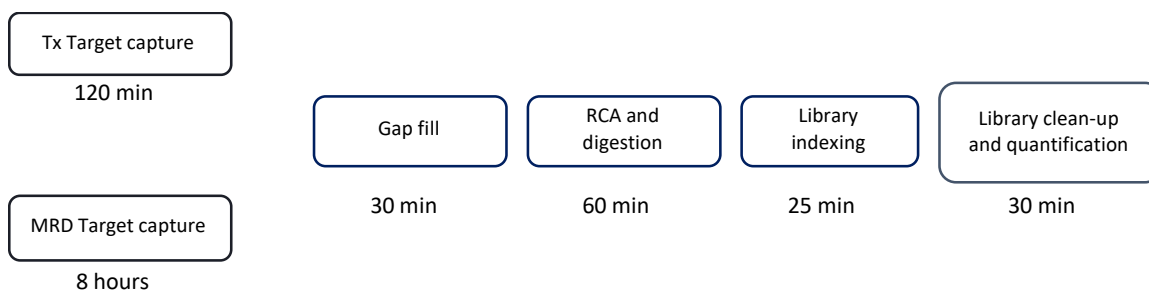

Figure 3 Duration breakdown of Geno1® Tx and MRD laboratory workflows.
11. What is the turnover and hands-on time of the Geno1® NGS technology platform?	<p>The Geno1® workflow is designed to be fast and efficient, taking less than 5 hours to complete with only 5 minutes of hands-on time required, compared to 7 hours on amplicon-based workflows or at least 8 hours on hybrid capture-based workflows. This streamlined workflow allows for rapid sample processing, saving valuable time and resources (see Figure 3).</p> <p>Once the workflow is complete, the subsequent NGS analysis duration depends on the sequencing technology used.</p>